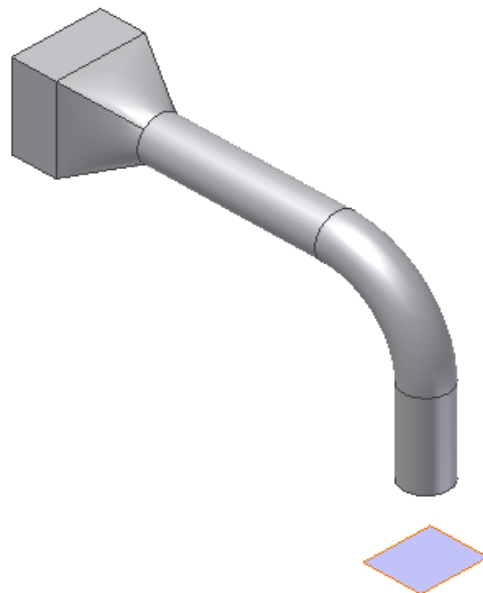

Figure Step 18
**Step 18** Create a sketch on the work plane and change the view to Isometric. See Figure Step 18.